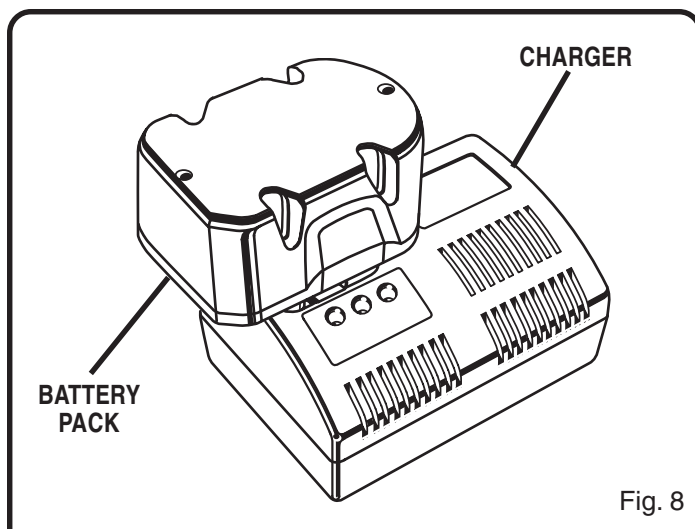

Fig. 8
- Place battery pack in charger. *See Figure 8.* Align raised rib on battery pack with groove in charger.